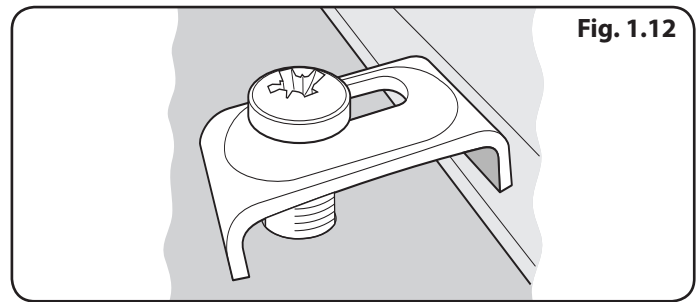

Fig. 1.12
1. The worktop should already be upside down with silicon sealant in place. Lay the sink on to the worktop. Fit the 'U' clamps into place using the screws supplied (**Fig. 1.12**) – this is the most effective method, although if the worktop has been fitted to the cabinet the sink can be fixed in position from underneath.